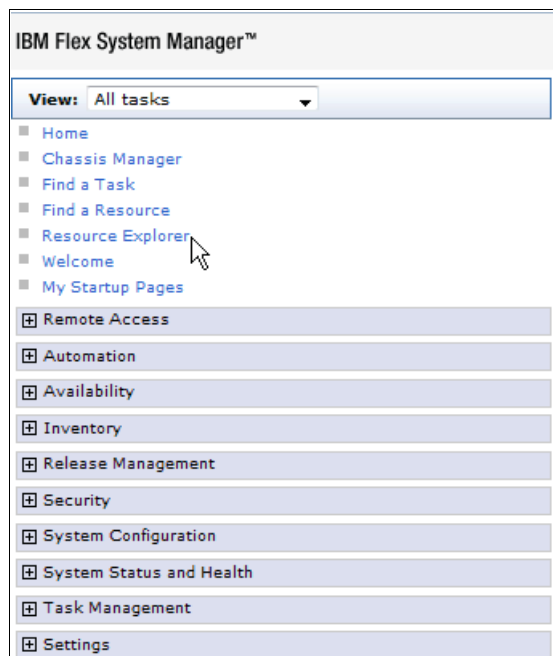

Figure 3-90 Opening Resource Explorer in FSM
1. From the left slide-out tab, select **Resource Explorer**, as shown in Figure 3-90.